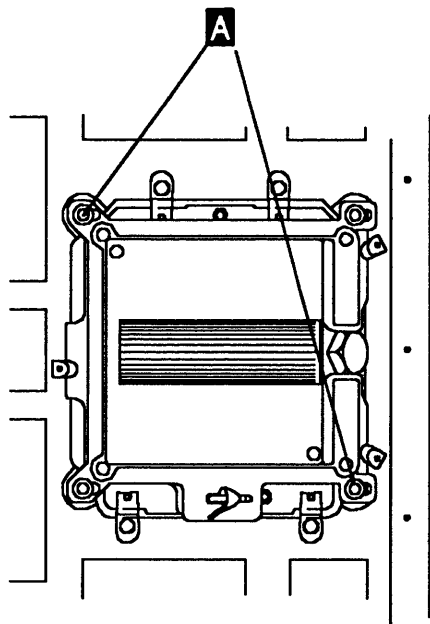

Figure 5-94. TCM Retaining Screws
9. Referring to Figure 5-94 on page 5-98: